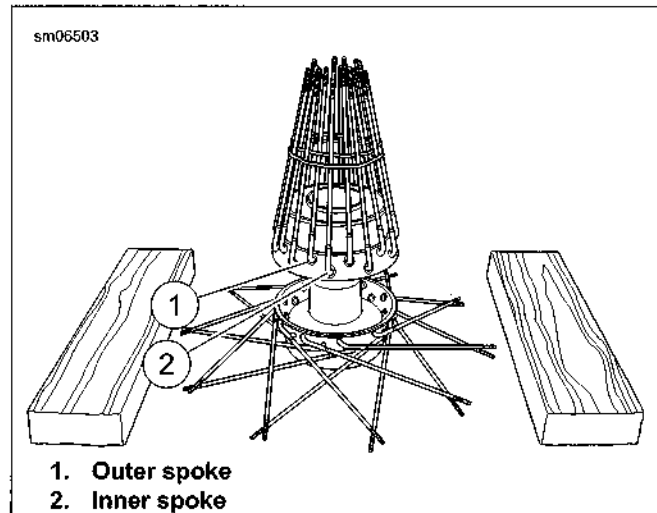

Figure 2-26. Spokes Gathered
3. See Figure 2-26. Flip hub over. Gather all outer spokes and hold upright with a rubber band. Repeat with the inner spokes using a second rubber band.